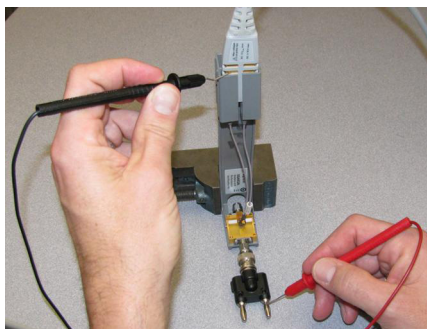

Figure 110 Measuring the Single-Ended Input Resistance the Solder-In Probe Head
- 7 To measure the single-ended input resistance, measure the resistance between the signal plug of the banana adapter and the probe amplifier ground, which can be accessed as shown in **Figure 110** (through the vent window of the probe amplifier).